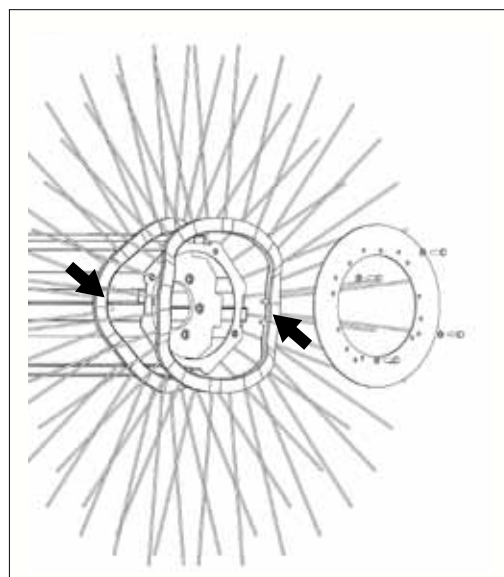

figure 8
9. Install a second section with drive pins rotated 180° from those on the first section (figure 8).